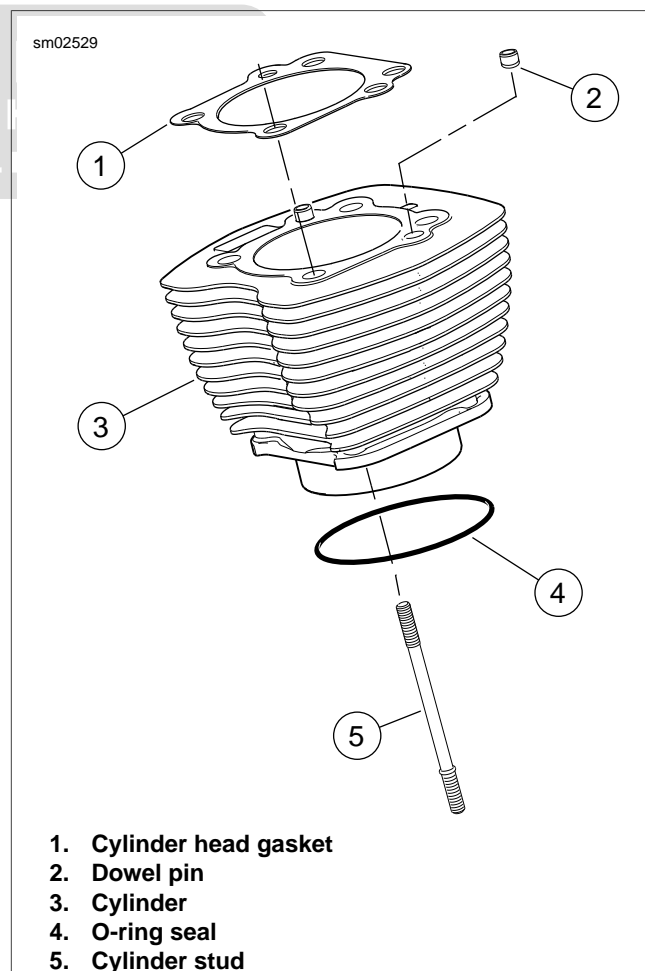

Figure 3-95. Cylinder Assembly
1. See Figure 3-95. Scrape old gasket material from the machined surface at the top of the cylinder (3). Old gasket (1) material left on the mating surface will cause leaks.